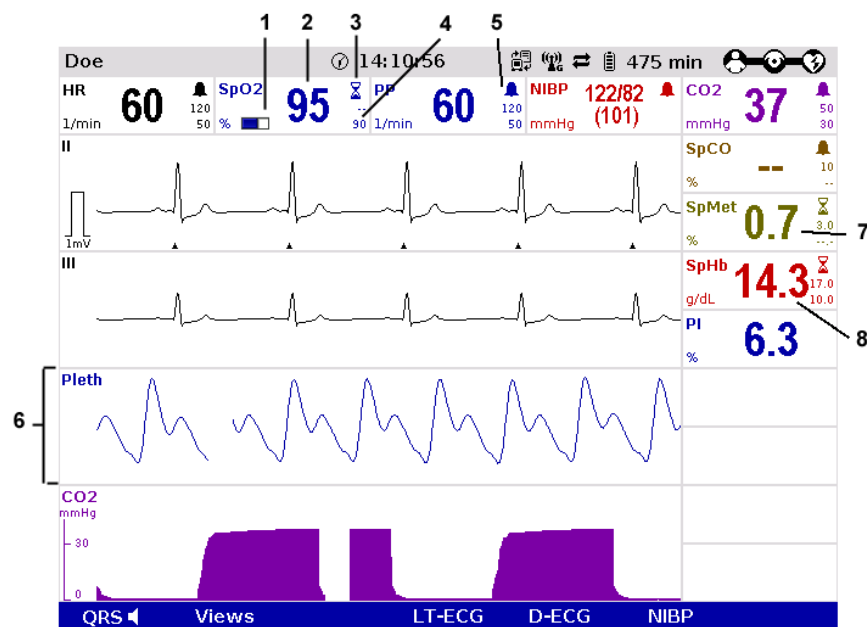

Fig. 6-19 Oximetry monitoring, configured screen
The signal intensity is a quality criterion for the capturing of measurement values. The signal intensity is measured and displayed as a horizontal bar in the parameter field SpO₂ (see p. 118 Fig. 6-19, item 1).